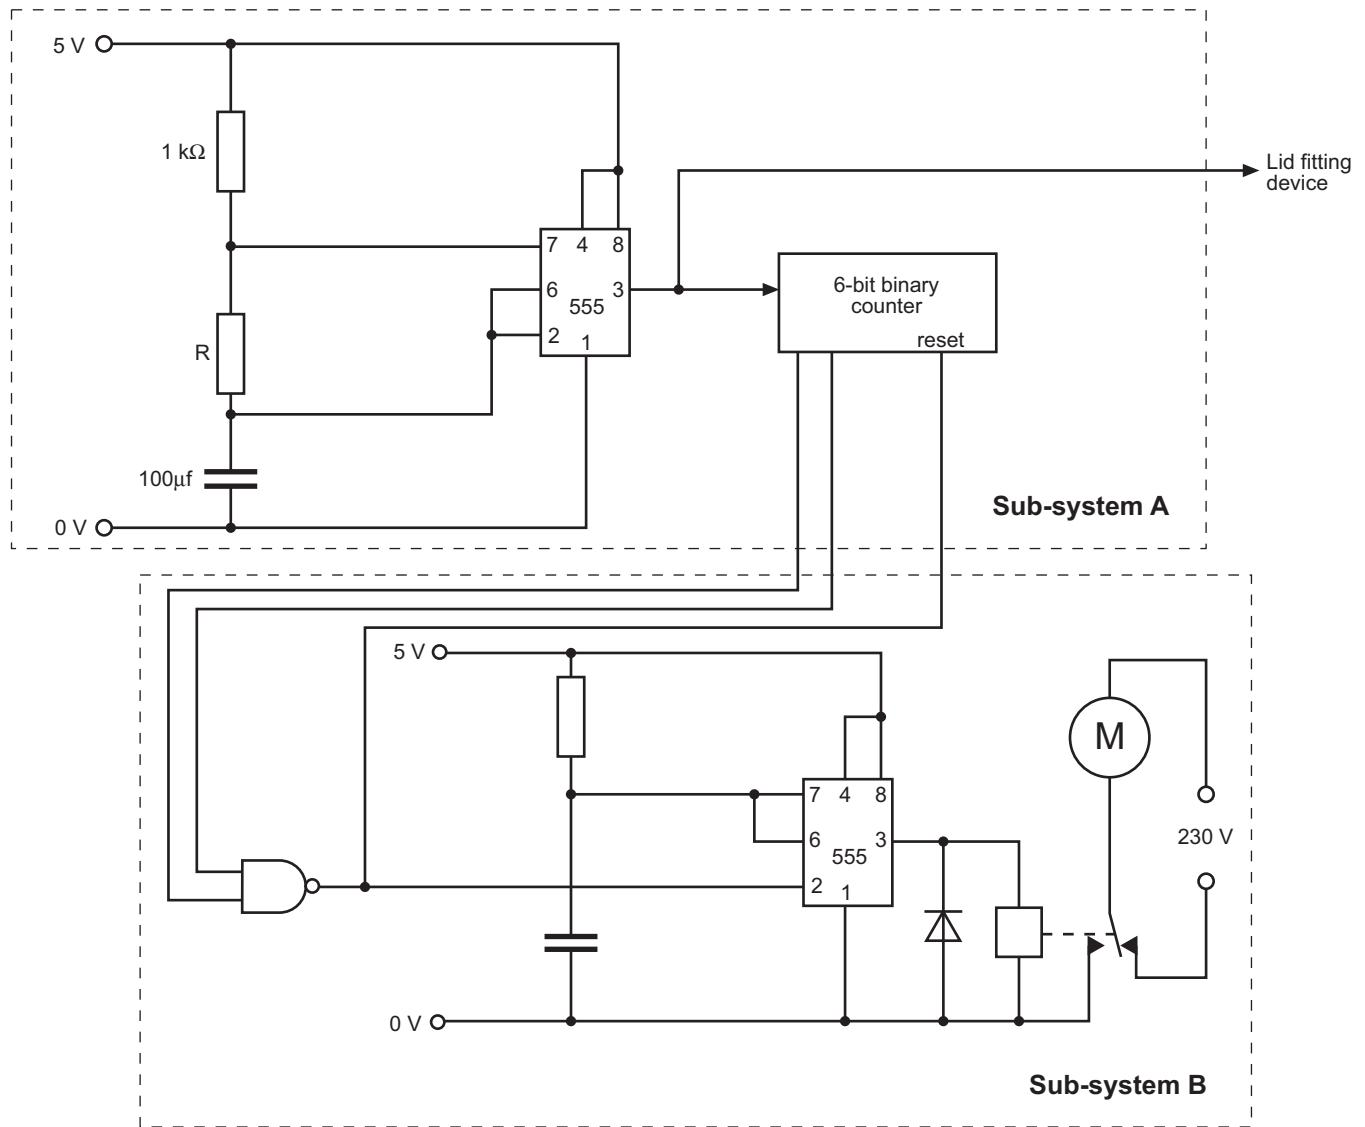

Figure Q1
1. In a bottling plant, lids are fitted to bottles as they pass along a conveyor belt to a packing point. After each batch of 40 bottles has had lids fitted, a motor is switched on for a short time to direct the flow of bottles to a different packing point. The control system is represented by the circuit shown in Figure Q1.
- (a) Explain in detail how the circuit shown in Figure Q1 operates, with reference to sub-system A and sub-system B.
The circuit shown in Figure Q1 actuates the lid-fitting device every 1.2 seconds.